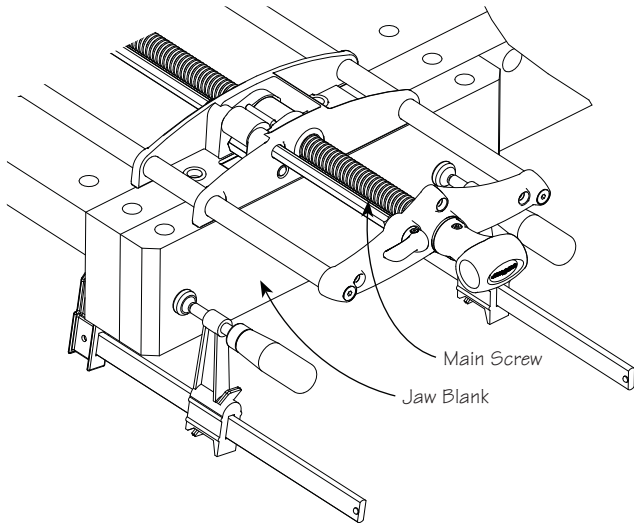

Figure 4: Positioning the jaw blank and vise mechanism.
- Dog holes: the front jaw should be thick enough to allow for dog holes so that the vise can be used to clamp parts to the top of the workbench. Ideally, these holes should align to the dog-hole matrix in the workbench top. The holes also need to be located so that they do not interfere with holes for the various rods and screws the mechanism will require (see **Figure 4**).